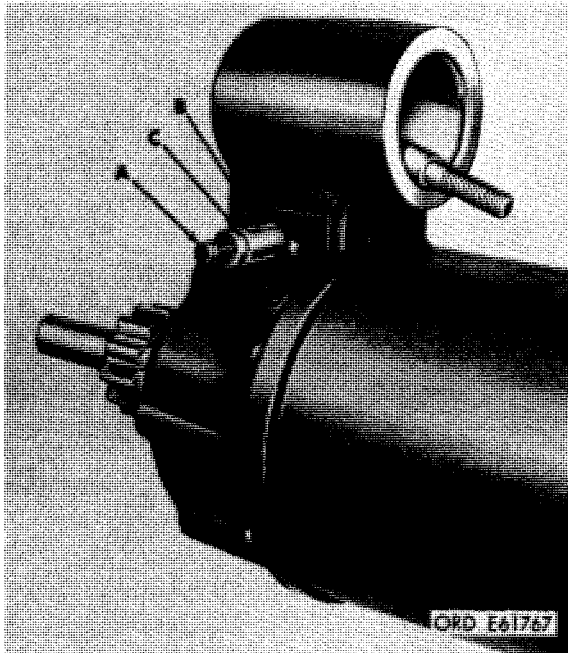

Figure 3-9. Removing or installing lever shaft.
b. Thread hex-socket head screw (A, fig. 3-9) into lever shaft (B) and pull shaft from shift housing. Remove screw and packing (C) from shaft.